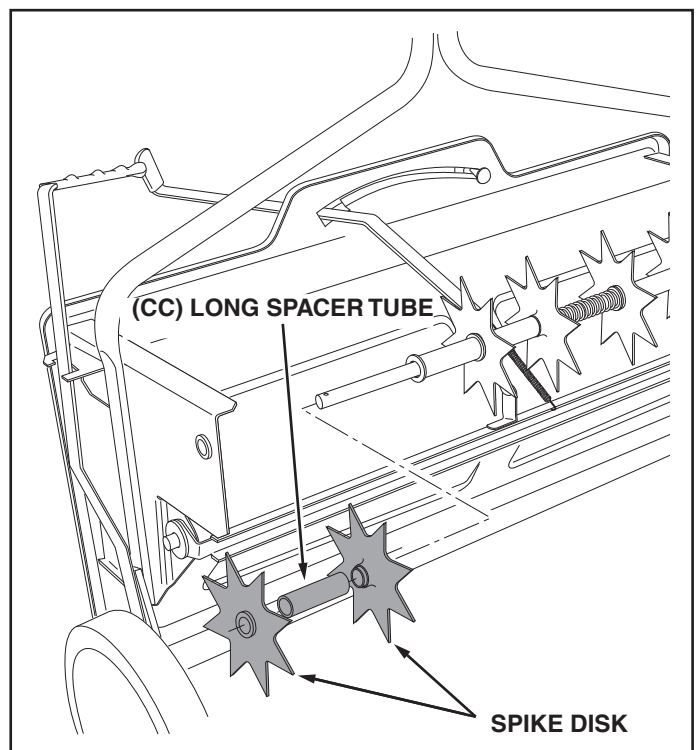

FIGURE 19
38. Place two spike disks, separated by a long spacer tube, onto the shaft. Fit the long spacer tube onto the ends of the flanged bearings in the disks. See figure 19.